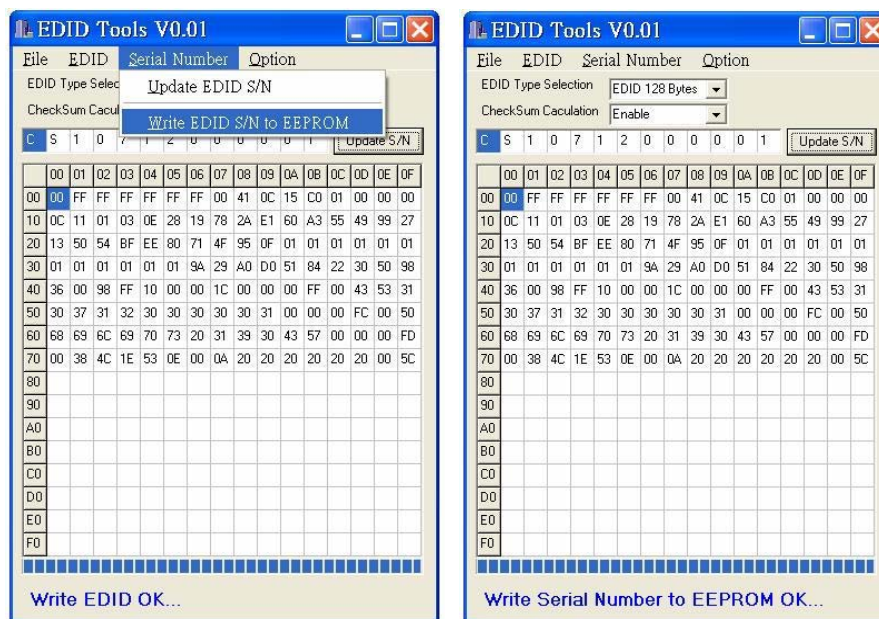

Fig.10
7. Enter Factory Mode then Press the Serial Number->Write EDIDS/N to EEPROM as shown in Fig.10
8. Press Monitor Menu Key to check OSD Serial number is the same as PI-EDID write data as shown in Fig.10